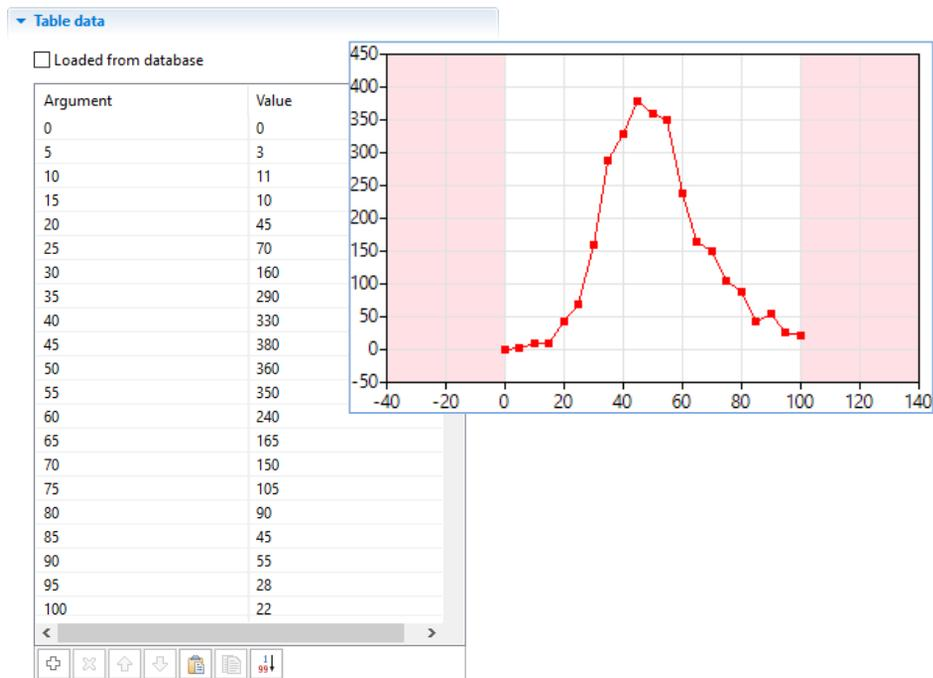

Figure 5.33 The table function **InfectiousHistoric**
12. Expand the **Table data** section of the table function properties and provide the historical data, as shown in Figure 5.33. If you have the data in a spreadsheet or a text editor, you can copy the data on the clipboard and click the **Paste from clipboard** button below the table.